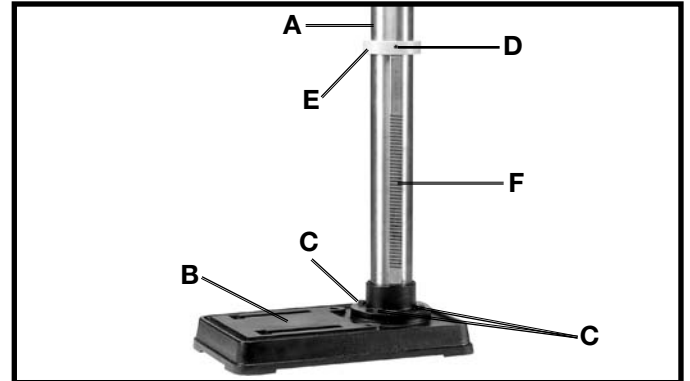

Fig. 3
1. Assemble the column (A) Fig. 3, to the base (B) using the four M8x25mm hex head screws (C), three of which are shown. Loosen set screw (D) and remove ring (E) and raising rack (F).